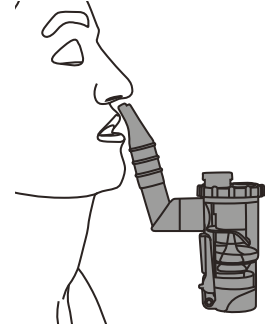

Figure 20
- During inhalation, the nosepiece must be connected to the nebuliser using the adapter. Then hold the nosepiece to the nose (Figure 20).